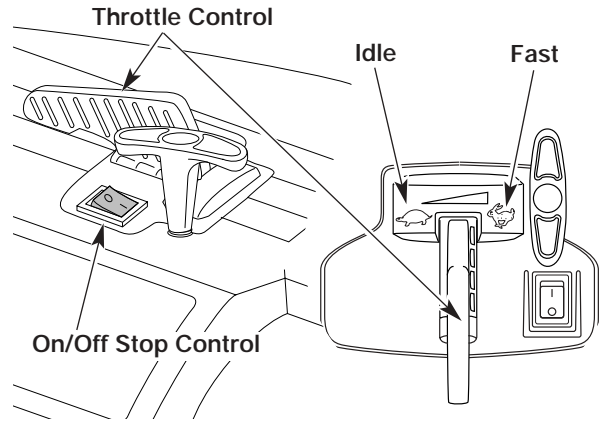
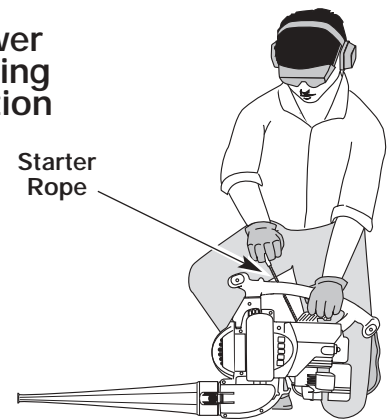
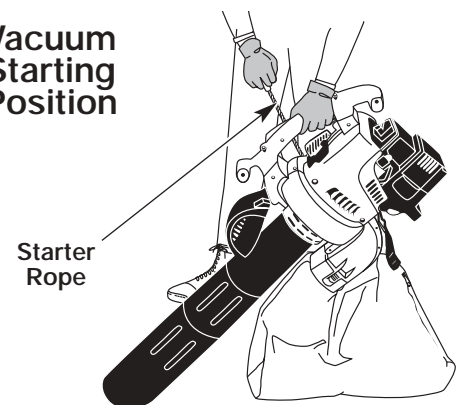

Fig. 10
Fig. 12
Fig. 13
WARNING: Avoid accidental starting. Make sure you are in the starting position when pulling the starter rope (Fig. 12 and 13). To avoid serious injury, the operator and unit must be in a stable position while starting.
4. Place the unit in the starting position (Fig. 12 as a blower, Fig. 13 as a vacuum). Move the throttle control to the fast position (👉) (Fig. 10).